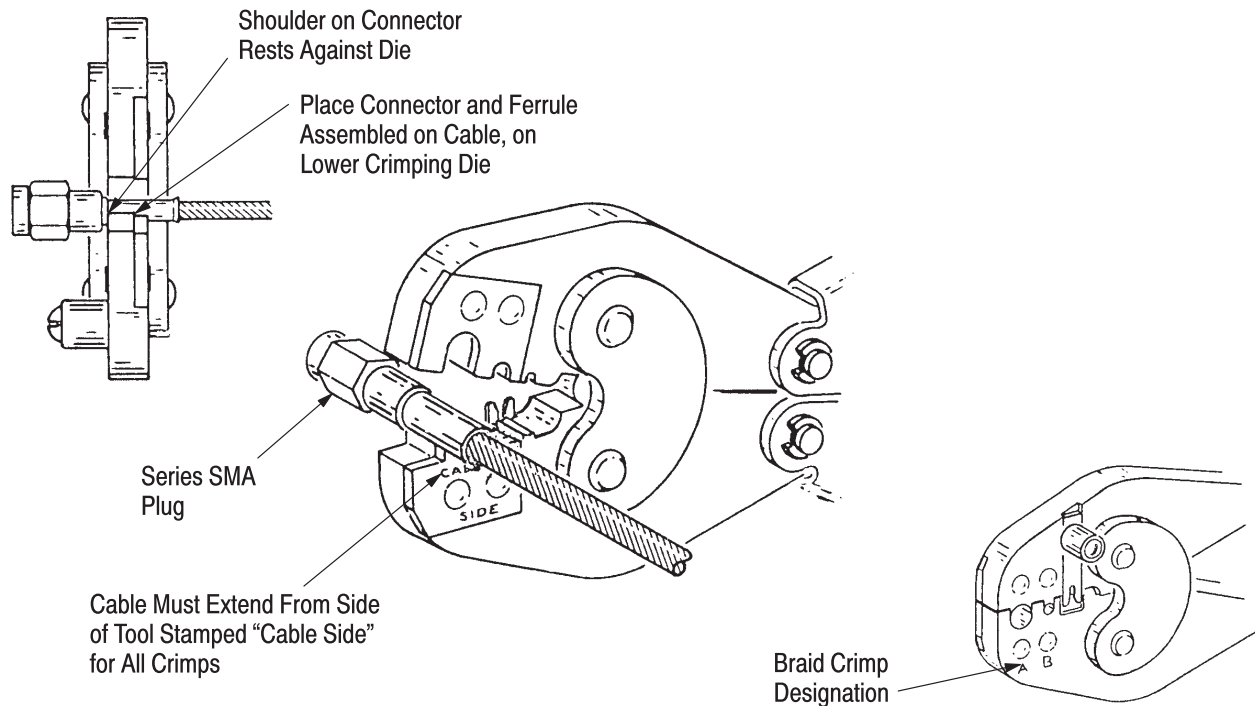

Figure 4
Refer to Figure 4 and proceed as follows:
3. Position connector assembly so that ferrule is in the proper crimping section of the tool and located, as shown in Figure 4.